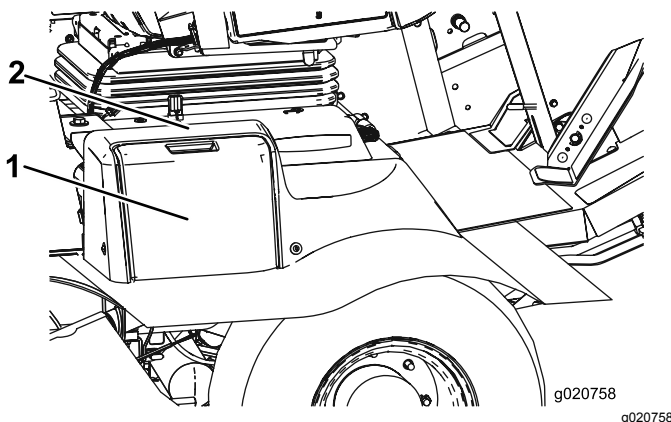

Figure 81
1. Open the battery cover (Figure 81). on the side of the shroud.
Note: Press down on the flat surface above the battery cover to ease cover removal (Figure 81).